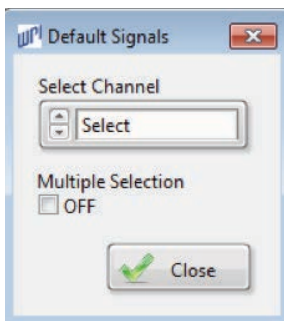

Fig. 79—The Default window lets you return to your original data display.
1. Click on the **Channel Math** menu (of the *Analysis* window) and select **Default**. The *Default Signals* window appears (Fig. 79).